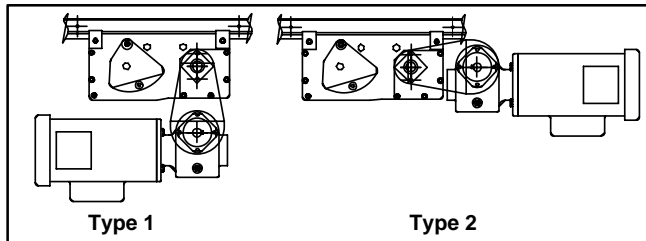

Figure 2
**NOTE:** Type 1 mounting package shown below left (Figure 2.) Type 2 mounting package shown below right (Figure 2.)